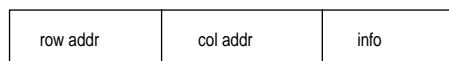

Figure 4. Data Packet
After the proper identification by the receiving device, data train of arbitrary length is transmitted from the master. There are three transmission formats from (a) to (c) as stated below. The data train in each sequence consists of row address (R), column address (C), and display information (I), as shown in Figure 4. In format (a), display information data must be preceded with the corresponding row address and column address. This format is particularly suitable for updating small amounts of data between different rows. However, if the current information byte has the same row address as the one before, format (b) is recommended. For a full screen pattern change which requires a massive information update, or during power up situation, most of the row and column addresses on either (a) or (b) format will appear to be redundant. A more efficient data transmission format (c) should be applied. This sends the RAM starting row and column addresses once only, and then treats all subsequent data as display information. The row and column addresses will be automatically incremented internally for each display information data from the starting location.